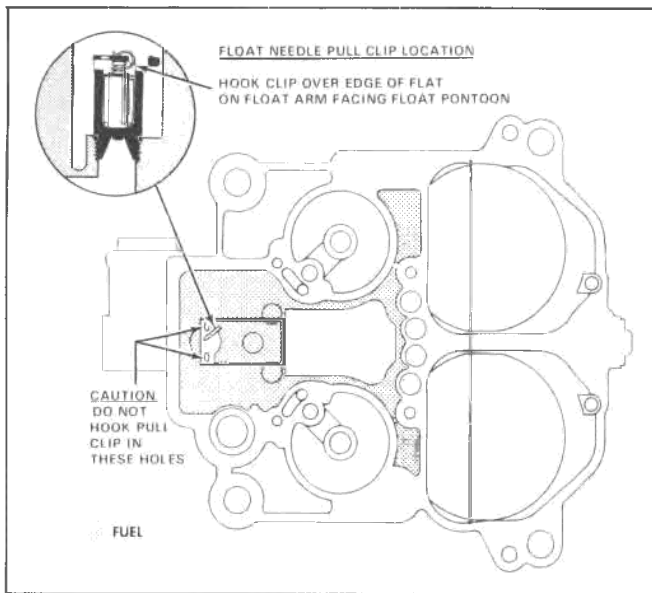

Fig. 6C-70--Pull Clip Location
c. With adjustable T-scale, gauge from top of float bowl casting (air horn gasket removed) to top of float - gauging point is 3/16" back from end of float at toe (See inset - Fig. 6C-71).